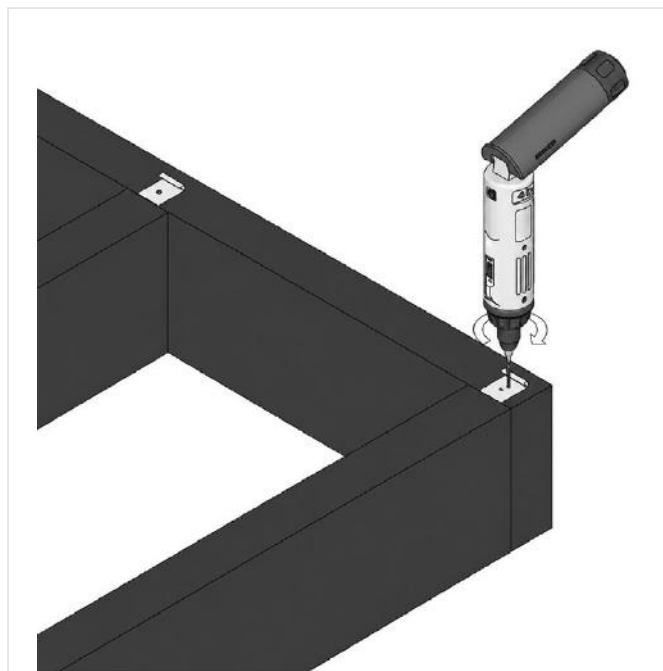

FIG. 17 – EDGE BOARD – STARTER FASTENERS ON THE OUTER JOIST
- 02 Secure starter fasteners onto the outer joist (fig. 17) at 300 mm intervals.